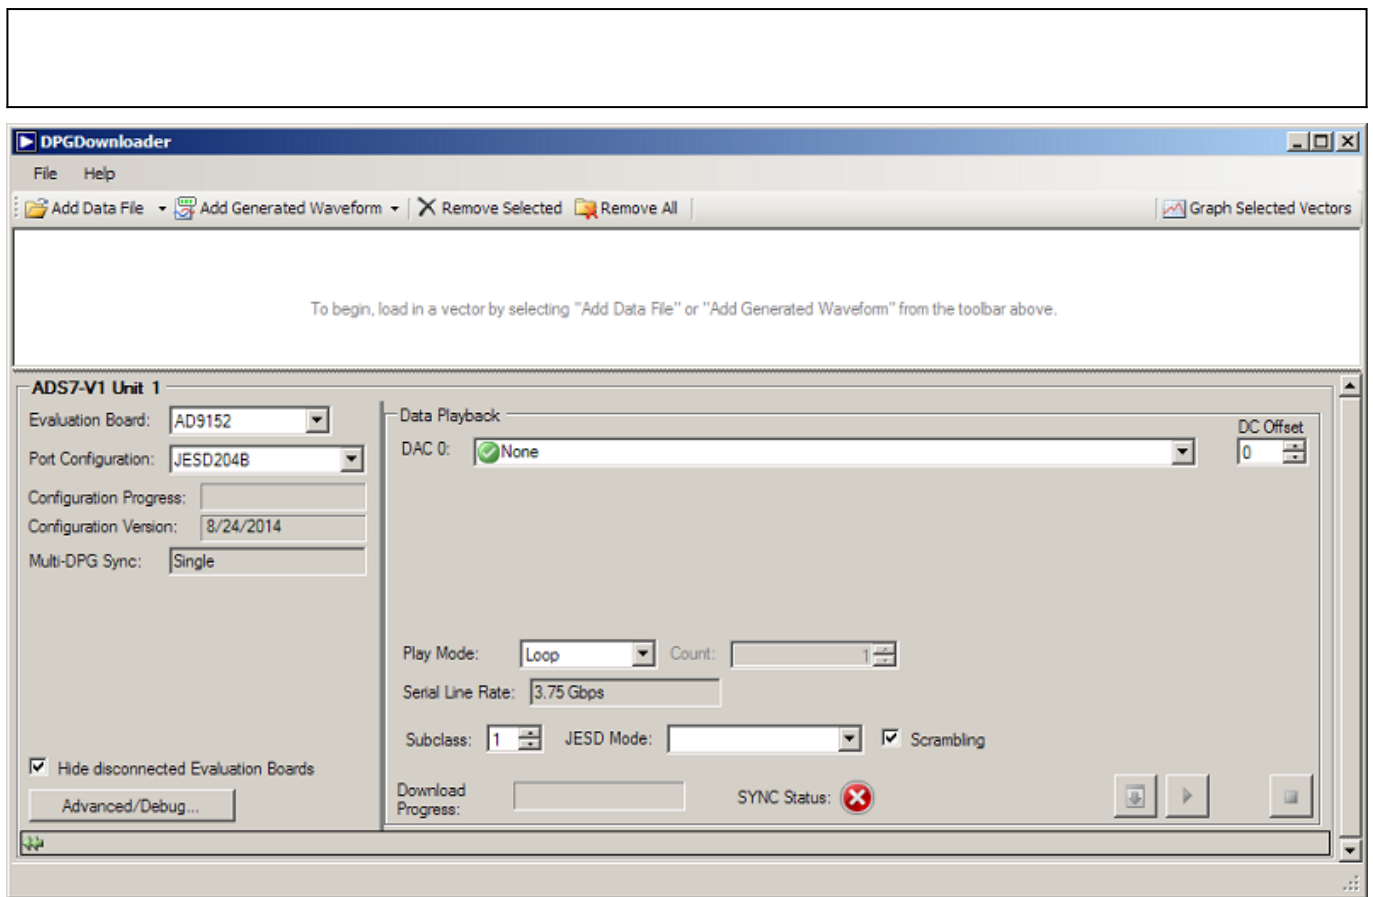

Figure 3. Initial DPG Downloader Panel
1. Run DPG Downloader. It will say AD9152 as shown in Figure 3